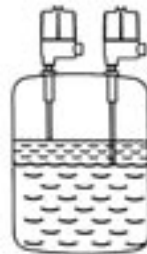

**FIGURE 1**
5. Apply proper line power per page 4, and observe LED. (See Figure 1.)
15. Time Delay: The Series 650 has a built-in 0.5 second delay to energize the output relay. An adjustable delay feature is optional. (See Figure 1, Timer Module.)